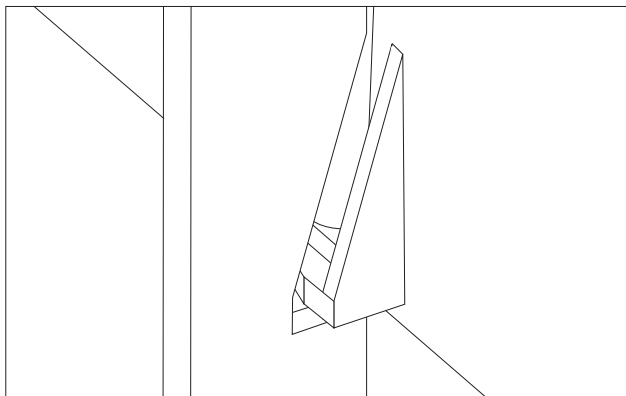

Fig 8-5 Battery Module Retaining Flange
4. The safety stop retaining flange passes through the notch in the frame as the battery module is removed. See figure 8-5.